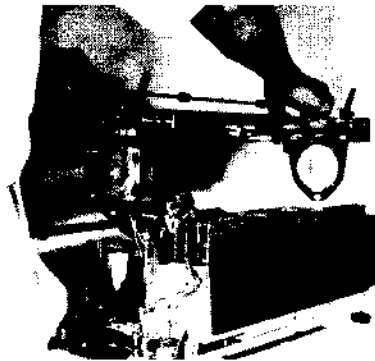

Figure 3-10. Carrier System Removal—C
- (8) Carefully lift the Carrier Subassembly, including the paper feed motor, free of the printer's main frame, as shown in Figure 3-10. Be sure the motor wires and Paper-Out switch wires are free and not caught in the wire bundle.
- (2) Carefully lower the Carrier Subassembly down into position on the printer's main frame. Refer to Figure 3-10.